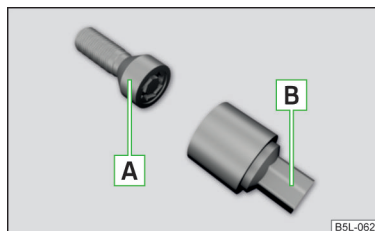

Fig. 322
The anti-theft wheel bolts protect the wheels from theft. The upper section **B** » Fig. 322 must be used to **loosen/tighten** these.
- › Push the wheel wrench onto the wheel bolt to the stop. Use the associated upper section for the anti-theft wheel bolts » Fig. 322 on page 288.